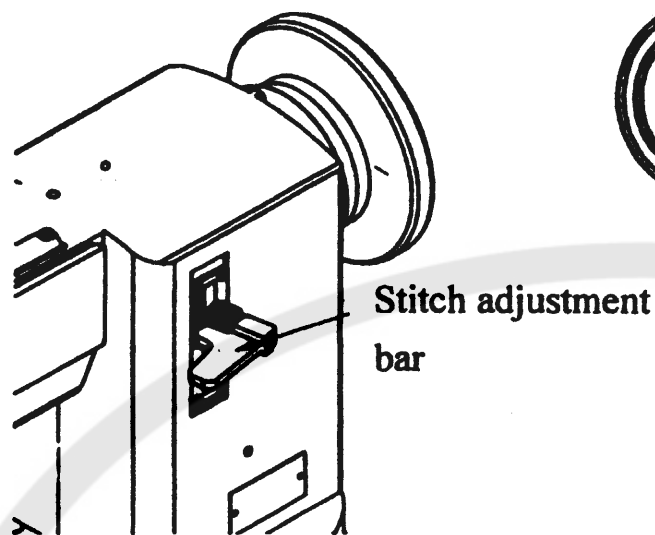

Fig.10
12.STITCH LENGTH & REVERSING LEVER: (Fig.10)